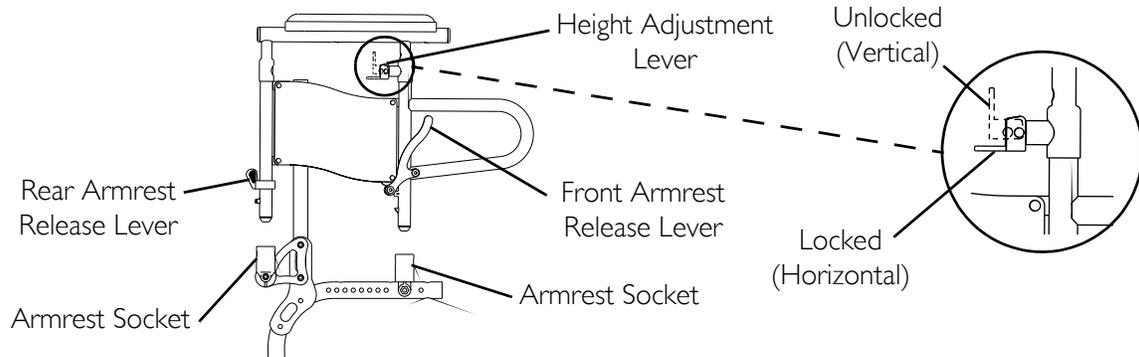

FIGURE 8.1 Removing/Installing/Adjusting Conventional Adjustable Height Armrests
NOTE: For this procedure, refer to FIGURE 8.1 on page 49.
2. Turn rear armrest release lever to locked position to secure armrest assembly to armrest sockets (Detail "A" of FIGURE 8.1).